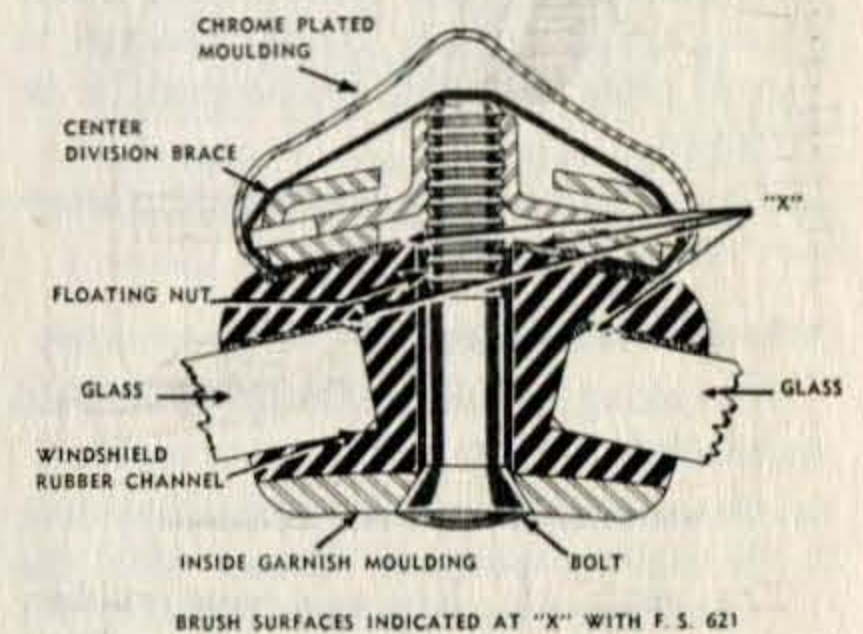

Fig. 7. Sealing Windshield Center Division Molding
The windshield glass rubber channel is molded from rubber and "H" shaped. The center connecting section is an integral part of the channel. This construction eliminates the inner and outer center division molding gaskets. (See Fig. 7.)
2. Coat the inner flanges of the stainless steel bead with a liberal coating of F. S. 621 rubber cement. (See Fig. 7.)
pound F. S. 621 to make a permanent sealing job. (See Fig. 7.)